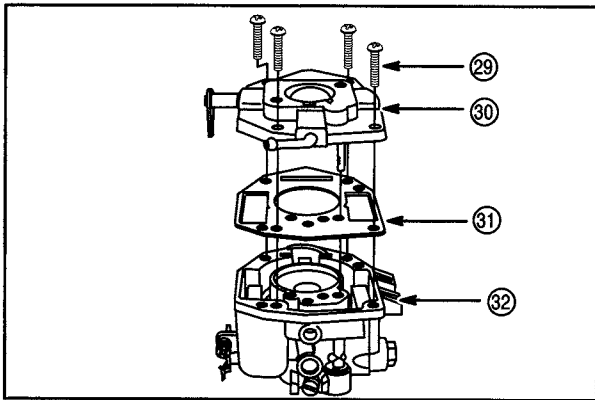

Fig. 94
4. Place new gasket (31) on lower carburetor body (32). Make sure holes in body line up with holes in gasket, **Fig. 94**.
5. Install upper carburetor body (30). Tighten screws (29) securely.